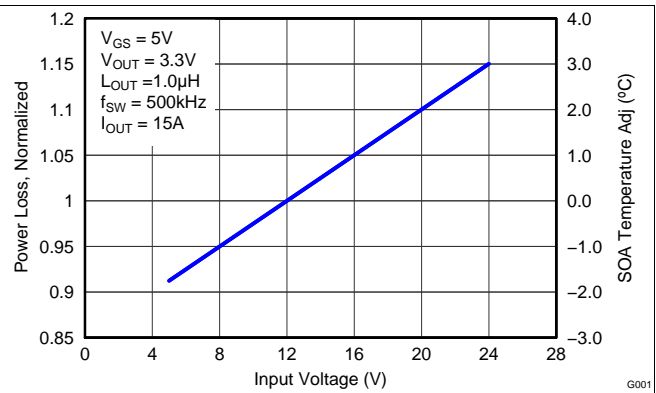

Figure 7. Normalized Power Loss vs Input Voltage
- Normalized power loss for input voltage \approx 1.1 (Figure 7)
- SOA adjustment for input voltage \approx 2°C (Figure 7)